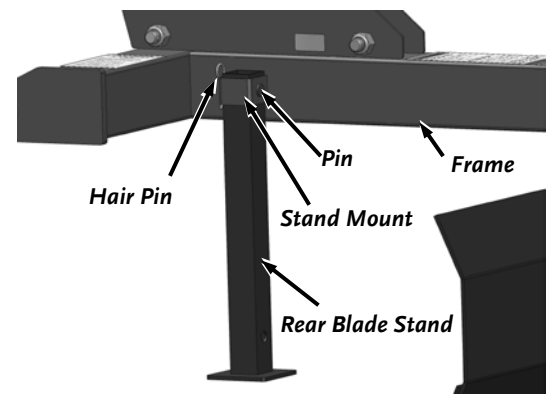

Figure 9
8. With assistance, lift the Frame and install the Rear Blade Stand into the Stand Mount on the Frame (**Figure 9**). Align the top hole in the Stand with the hole in the Stand Mount. Secure the Stand using the 15mm Pin and 3mm Wire Hair Pin.